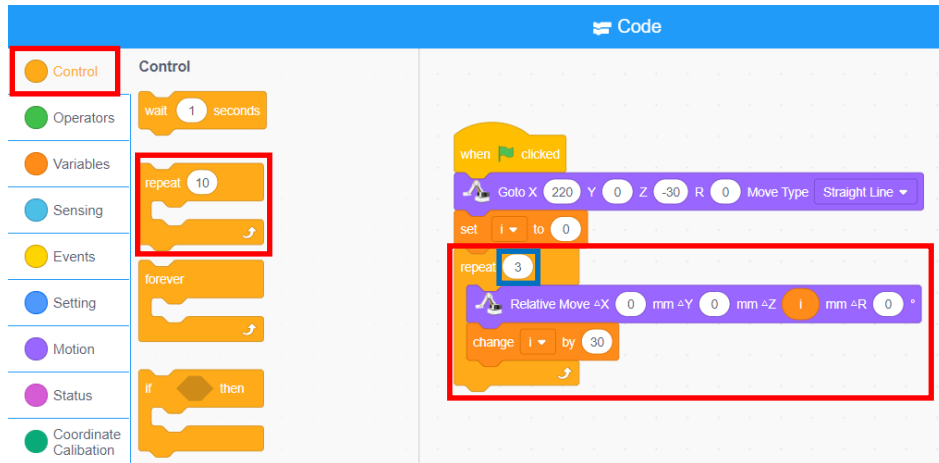

Figure 2.10 Block of repeated execution
Click the "**Control**" tab, drag the "Repeat (10)" block to the code area, put it under the "Set (i) to 0" block, and then change the number of repeated executions to 3, as shown in Figure 2.10.